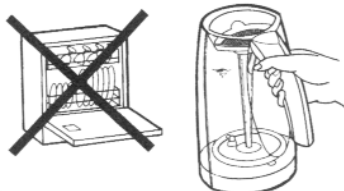

FIGURE 6
**DO NOT** put the Processing Carafe in your dishwasher, (FIGURE 6). The heat and detergent will cause damage.